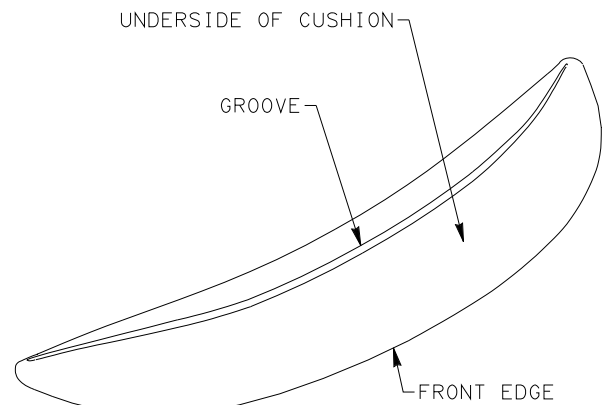

FIGURE 2
5. WHEN PROPERLY INSTALLED, GROOVE ON UNDERSIDE OF CUSHION SHOULD REST UNIFORMLY ON LIP OF SEAT FRAME. FRONT EDGE OF CUSHION SHOULD HAVE A UNIFORM SPACING (VIEWED THROUGH PELLICLE) OF APPROXIMATELY 1/2" FROM PELLICLE BEAD. SEE FIGURES 2 AND 3.